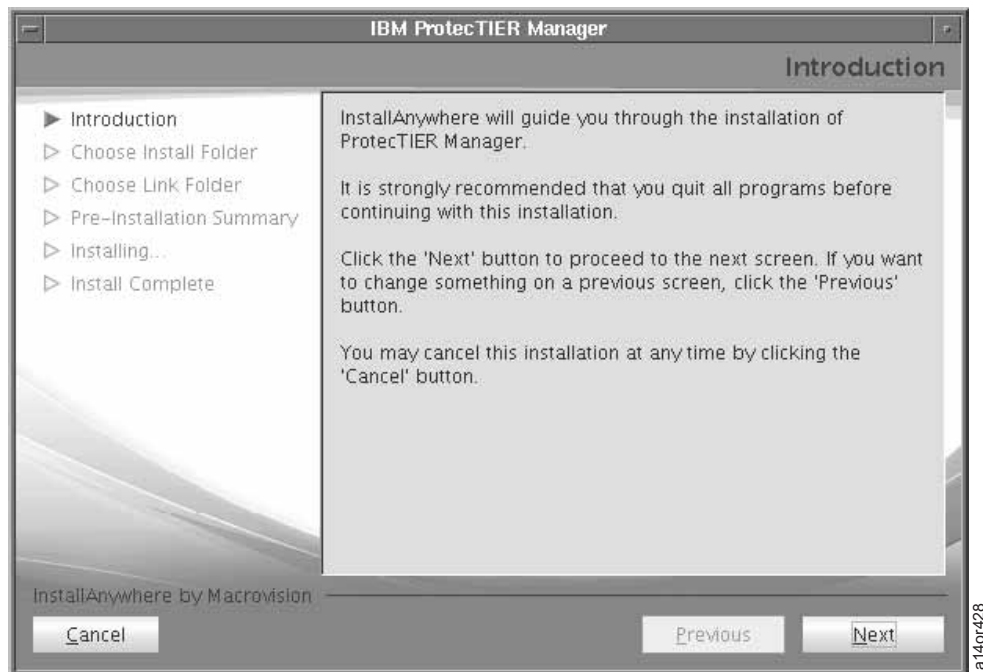

Figure 2-83. Introduction Screen
7. You will see the Figure 2-83 on page 2-57. Click **Next**.